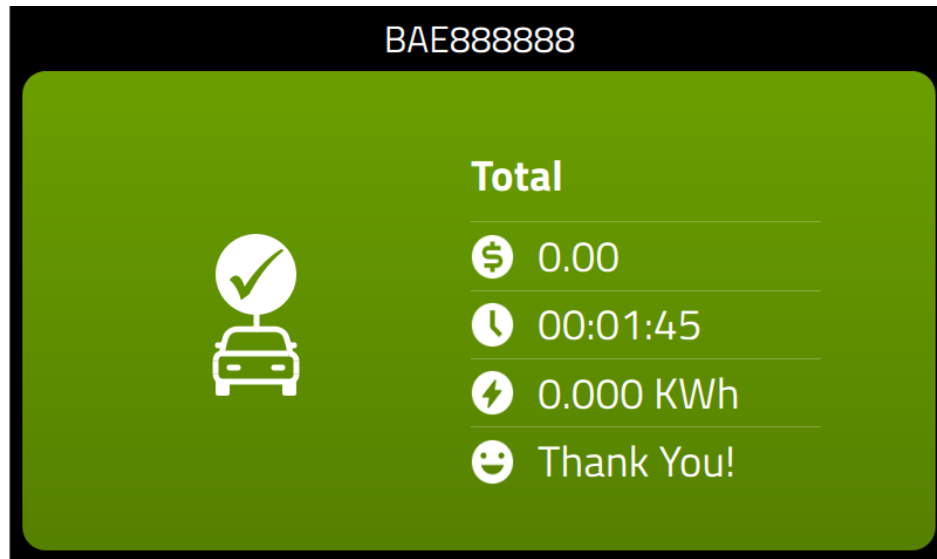

Fig. 61 – Charge Complete
- Fig. 61 shows a charge completed page